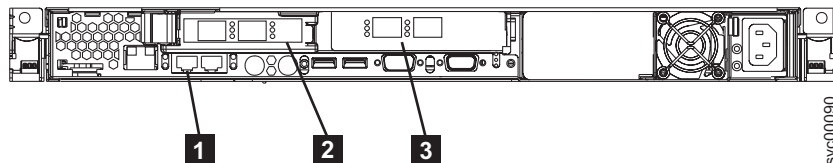
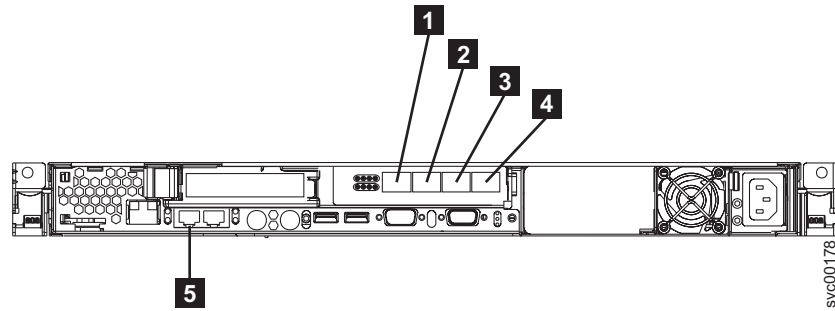

Figure 51. Connectors at the back of the SAN Volume Controller 2145-8F2
Figure 52. Connectors at the back of the SAN Volume Controller 2145-8F4
1. Connect the Ethernet cable to the Ethernet port **1**. See Figure 51 for the SAN Volume Controller 2145-8F2. See Figure 52 on page 75 for the SAN Volume Controller 2145-8F4 Ethernet port **5**.